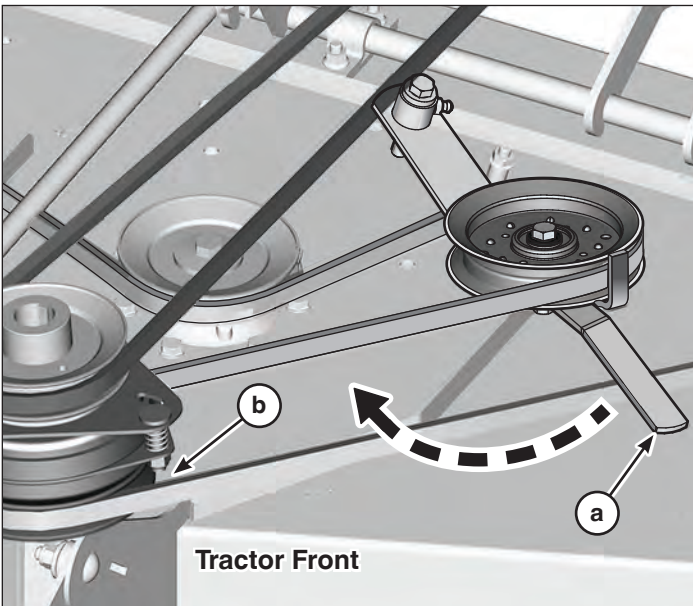

Figure 17
8. On left side of tractor, move idler arm (a, Figure 17) on mower to release belt tension. Reinstall belt onto PTO pulley (b).